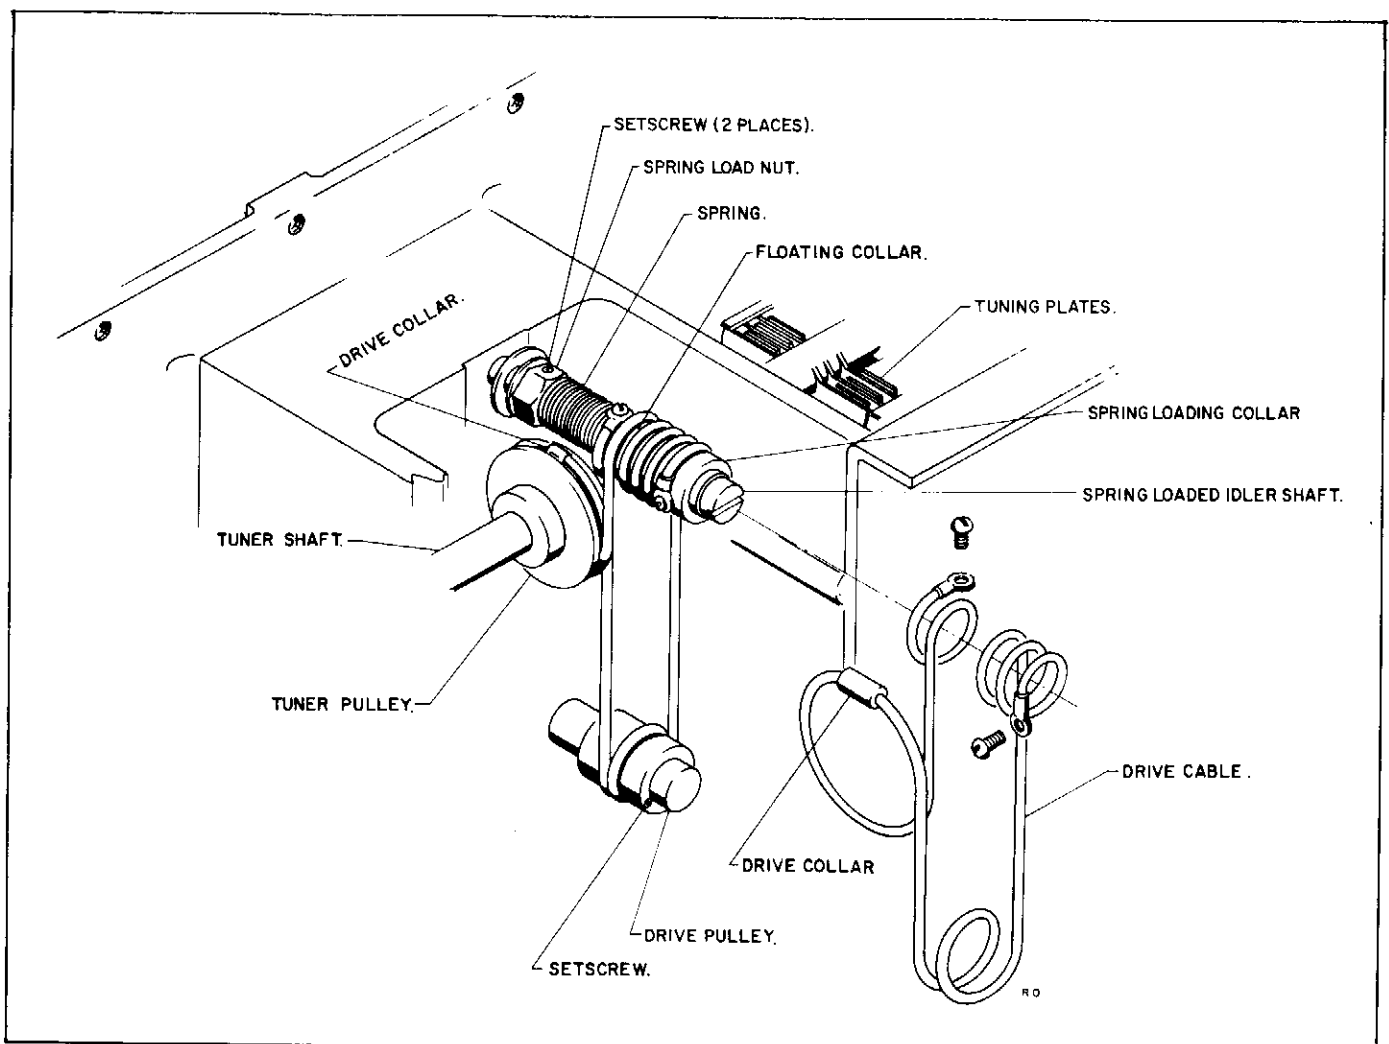

Figure 4-6. Installation of Drive Cable Assembly
c. Refer to figure 4-6. Loosen the two setscrews in the spring load nut and the one setscrew in the end of the drive pulley.
f. Wrap the short end of drive cable around the tuner pulley as shown in Figure 4-6. Attach end of
h. Wrap one and a half turns of the drive cable around the drive pulley as shown in figure 4-6.